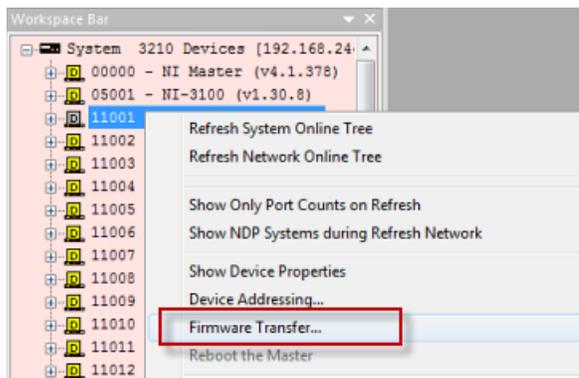

**FIG. 13** NetLinx Studio - Online Tree, indicating an EXB-COM2
In NetLinx Studio, open the OnLine Tree tab (in the Workspace Bar), and click *Display and select Refresh System* from the context menu. This establishes a new connection to the System and populates the device tree with devices on that system. An example is shown in FIG. 13:
- The Device Number of each connected device is indicated before the device's name. For example, the EXB-COM2 shown in FIG. 13 is device *11001*.
- The current firmware version is indicated in parenthesis after the product name (see *v1.0.49* in FIG. 13).